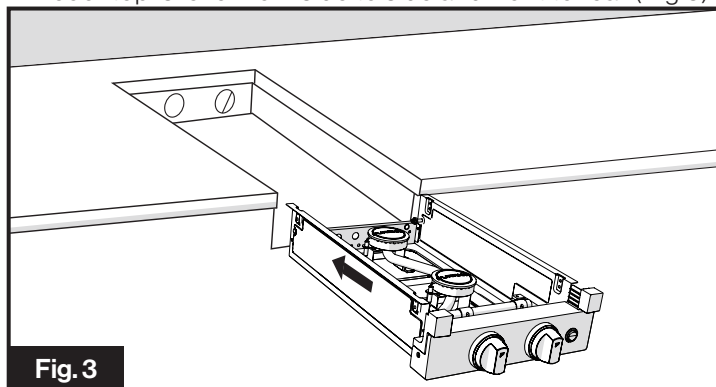

Fig. 3
3. Slide the cooktop into the cabinet opening. Verify that the cooktop is level from side to side and front to rear (Fig.3).